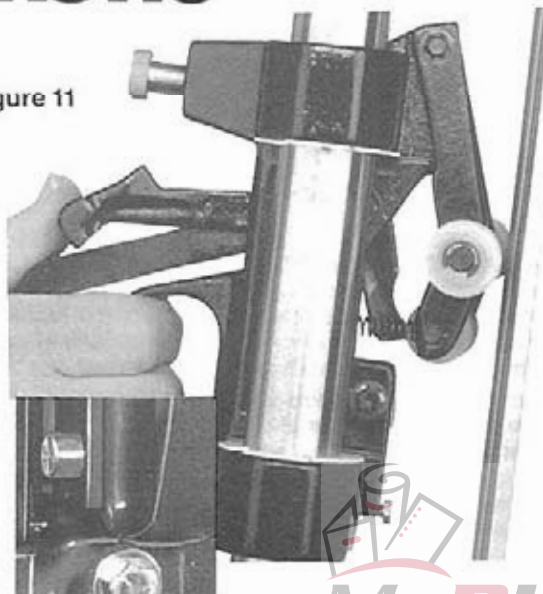

Figure 10
- Grasp the **Cutting Head** with your right hand. Depress the short **Trigger** with your thumb and hold it down while raising the **Head**. Release the **Trigger** so the cutting tool rests on the surface of the plastic as close as possible to the upper edge of the plastic. See Figure 10